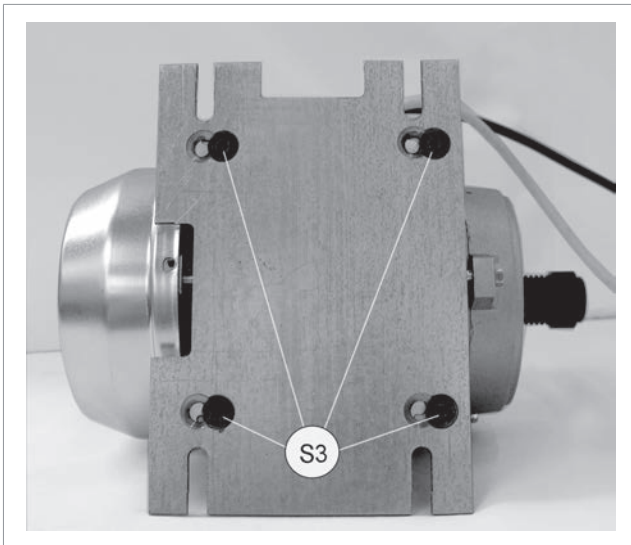
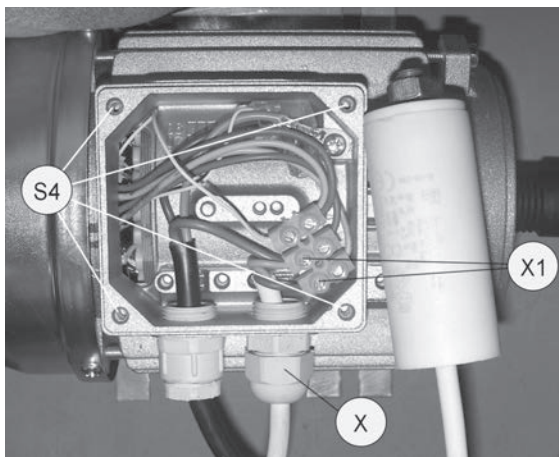

Fig. 57
Fig. 59
- Loosen the 4 screws (S4) (Fig. 59) on the motor box and remove.
- Loosen the 2 condenser connection screws (X1) (Fig. 59).
- Loosen the nut on the wire grommet (X) and remove the condenser.
- Fit the new condenser, taking the wire through the nut (X) replace the motor box and secure with the 2 screws (X1).
- Tighten the grommet nut (X), replace the motor box and secure with the 4 screws (S4).
- Loosen the 4 screws (S3) on the motor fixing plate (Fig. 57).